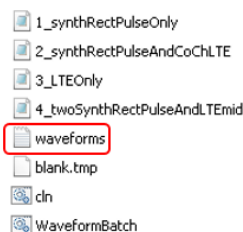

Figure 5: waveform file
- a) Locate the "waveforms.txt" file located in your "Test" folder. See Figure 5.